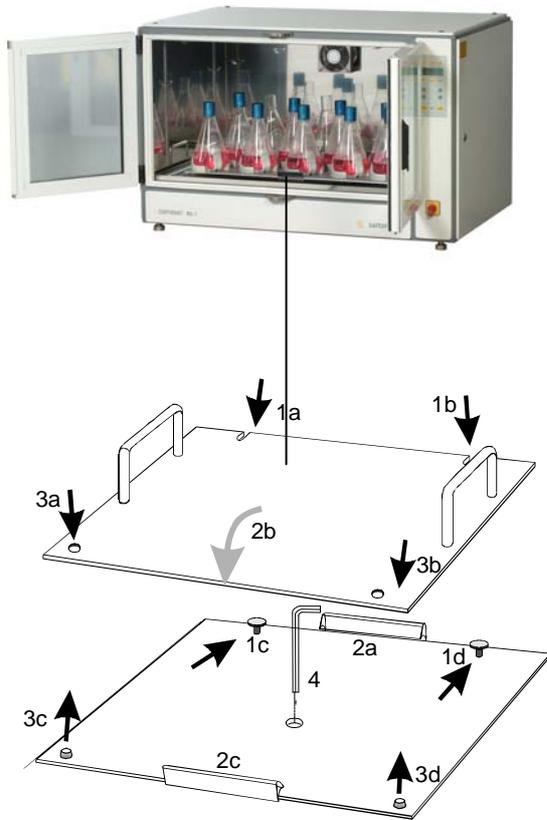

Fig. 10 Mounting of the tray on the shaking table (tray shown without mounting systems and containers)
5. Block the drive of the shaking table by putting the delivered hexagon socket screw key through the boring of the shaking table (Fig. 10, pos. 4). Carefully turn the shaking table until the drive has totally blocked.
The following set-ups in the “main menu“ (fig. 10) can be carried out: